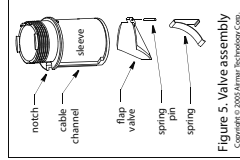

Figure 5. Valve assembly (Copyright © 2008, Airmar Technology Corp.)
**CAUTION:** Be careful to avoid cross threading the CAP nut. Should the valve fail, it will need to be removed for servicing. Follow the steps below. If a key is missing, a key must be made not immediately available. The valve sleeve must be installed in the multisensor housing for a watertight seal. Remove the flap valve, spring pin, and spring from the sleeve (Figure 5). Then reinstall the sleeve in the housing.
4. Clean, repair, or replace the valve assembly, so the flap valve moves freely and seats against the sleeve (Figure 5).
7. Remove the safety wire from the multisensor. With the combined valve assembly and paddlewheel insert ready in one hand, remove the blanking plug. Slide the assembly into the multisensor housing with the arrow on the top pointing forward toward the bow. Be sure the cable fits into the cable channel and the notch in the sleeve fits into the key in the housing (Figure 5). (A pushing twisting motion will locate the key.) Screw the CAP nut in place, being careful to avoid cross-threading. Hand-tighten only. Do not over tighten.